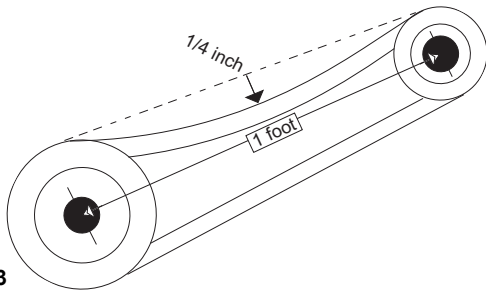

Figure 3
- Adjust the motor back until proper tension is reached. For proper tension a deflection of approximately 1/4" per foot of center distance should be obtained by firmly pressing the belt. Refer to figure 3.